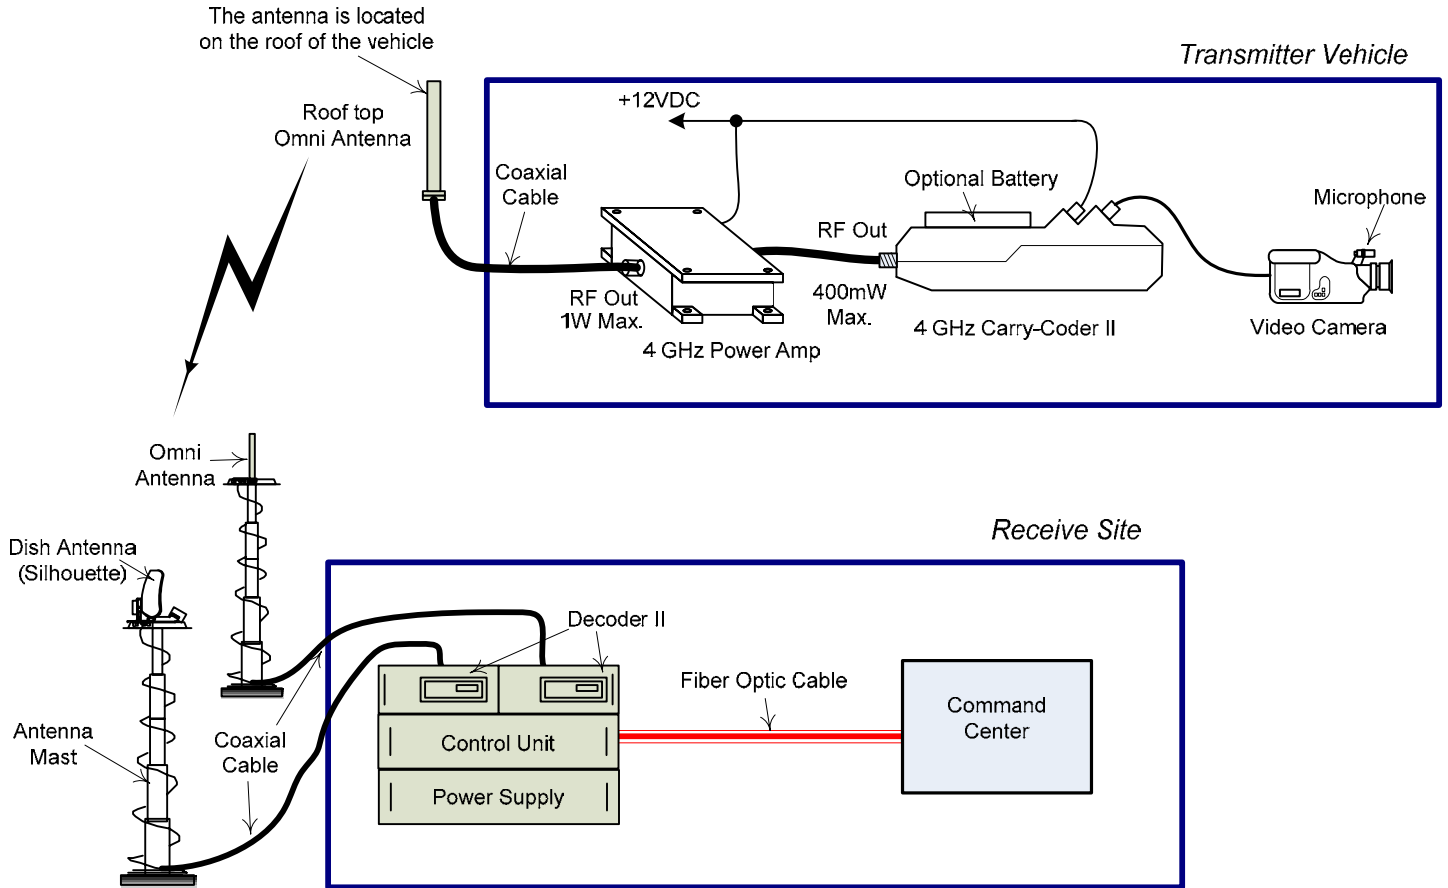

Figure 3 Typical system of 4GHz Carry-Coder II with Power Amplifier
Typical system the 4GHz Carry-Coder II with Power Amplifier is shown in Figure 3.
- The system of Figure 3 can demonstrate both mobile and fixed applications. The transmitter part including the Carry-Coder II Transmitter, Power Amplifier and the video camera are all mounted inside a truck.
The 4GHz Carry-Coder II with Power Amplifier can be installed inside a vehicle such as a truck. The symbolic diagram of the installation is given in Figure 3. The installation procedure is as follows: